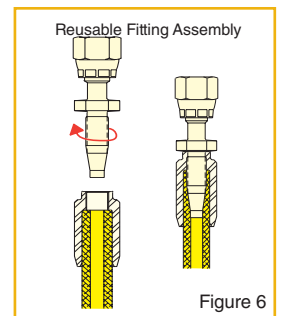

Figure 6
6. Using a wrench on the nipple hex, screw nipple into socket clockwise until nipple hex rests against socket shoulder (Figure 6). Do not tighten beyond that point.